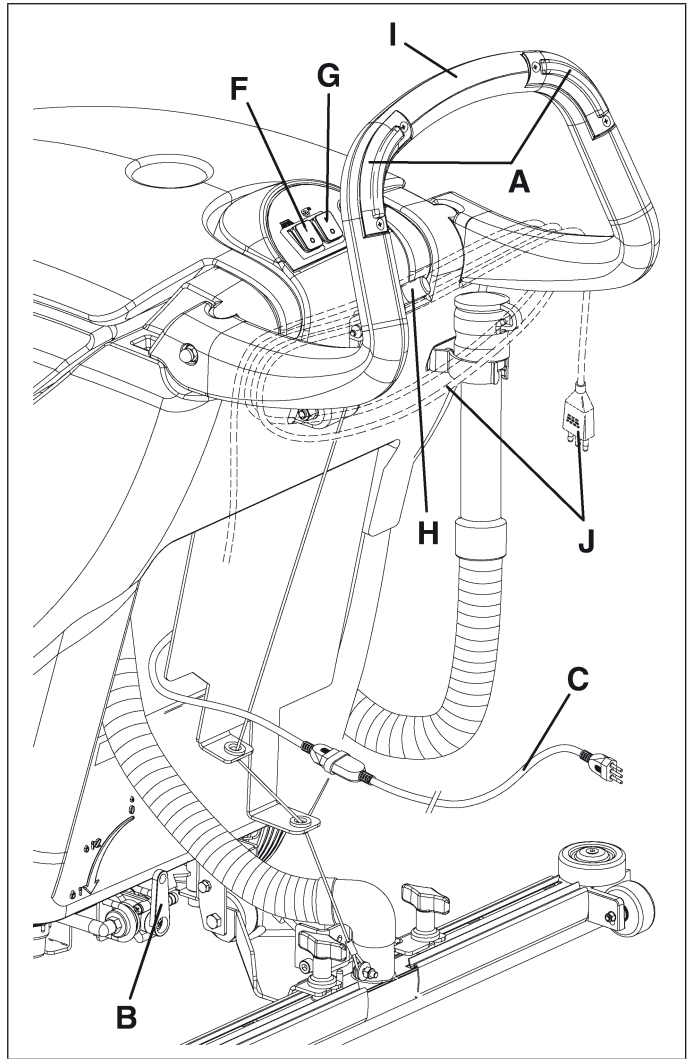

Figure 10
2. While keeping both hands on the handlebar (I, Fig. 10), move the machine and start scrubbing/drying the floor.
When the machine is stopped, stop the brush/pad by releasing the switches (A, Fig. 10).
Before lifting the brush/pad, stop its rotation by releasing the switches (A, Fig. 10).
3. If necessary, adjust the solution flow sent to the brush/pad by turning the lever (B, Fig. 10).
1. Turn the brush/pad rotation switch and the water vacuuming switch (F and G, Fig. 10) to the “0” position.
2. Disconnect the power supply cable plug (C, Fig. 10) from the electrical mains. Roll up the power supply cable on the handlebar into position (J).
3. Lift the squeegee by pushing the lever (H, Fig. 10) completely upwards.